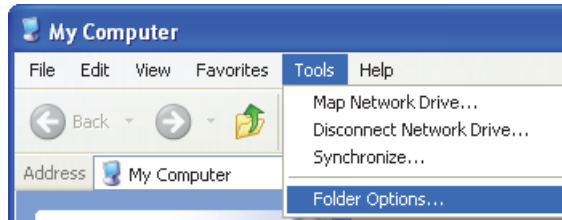

Figure 14-8 The Tools menu
- b) On the **Tools** menu, click **Folder Options** (see Figure 14-8 on page 302).